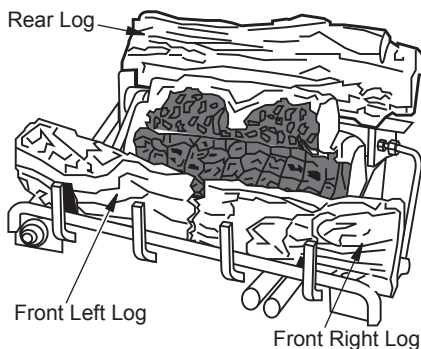

Figure 35 - Installing Logs
3. Place front left and right logs and rear log as shown in Figure 35.